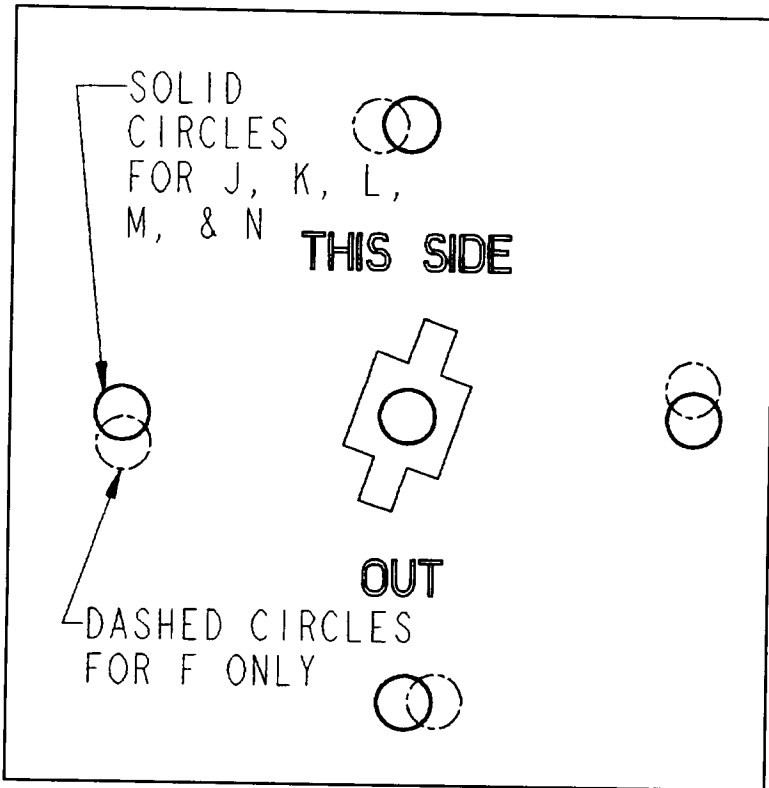

Fig. 4-2 Full Size Drill Template
4. Use enclosed full size template, similar to Fig. 4-2 on outside of door to locate holes and install handle. Note: cutout along dotted section of template. Place the cutout template over the shaft, ensuring proper side is facing out. Mark the handle screw holes and drill (4) .281" diameter holes as indicated on template.